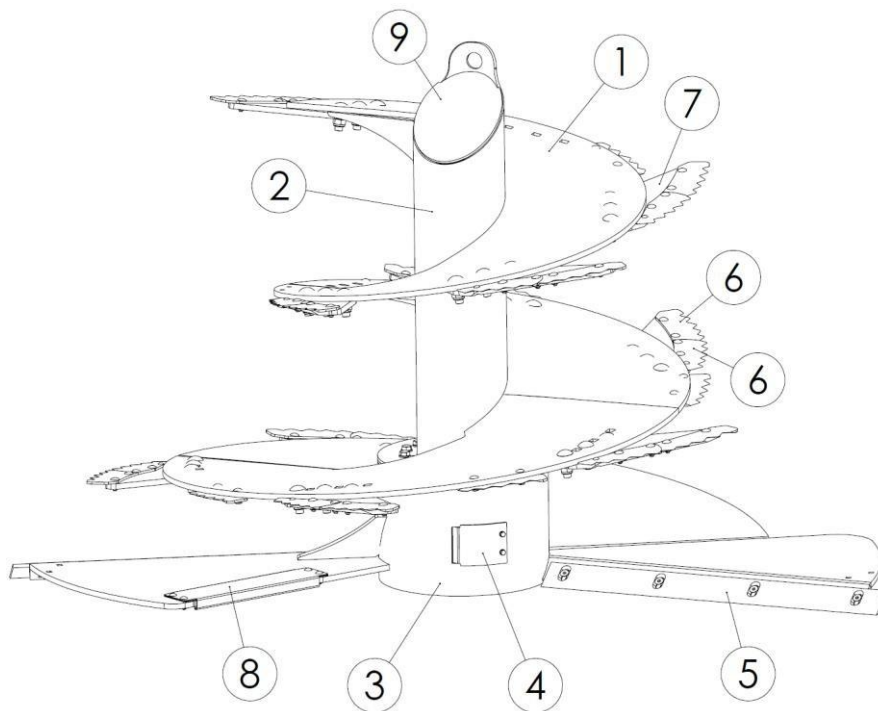

Figure 18. Screw: 1 - plate, 2 - top core, 3 - bottom core, 4 - bottom core, 5 - scraping knife, 6 - cutting knife, 7 - knife base, 8 - magnet, 9 - top core cap
The screw consists of (Fig.18) bent plates (1) which, once welded, form a ribbon-type surface, reducing mixing resistance to a minimum. The plates are welded to a top (2) and bottom (3) core. The bottom part of the core is fitted with an inspection opening with a cap (4). Scraper blades (5) and a magnetic metal separator (optional) are bolted to the bottom plates. The cutting knives (6) bolted to the screw at the bases (7), are responsible for cutting the feedstock.